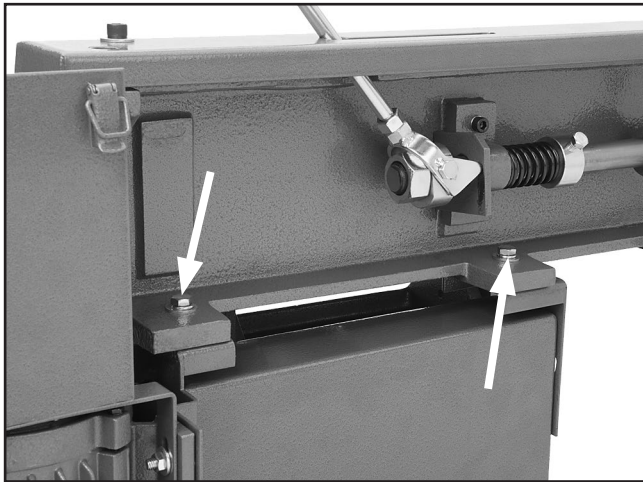

Figure 59. Hex bolts that secure platen for adjustments.
3. Loosen the two hex bolts shown in Figure 59.